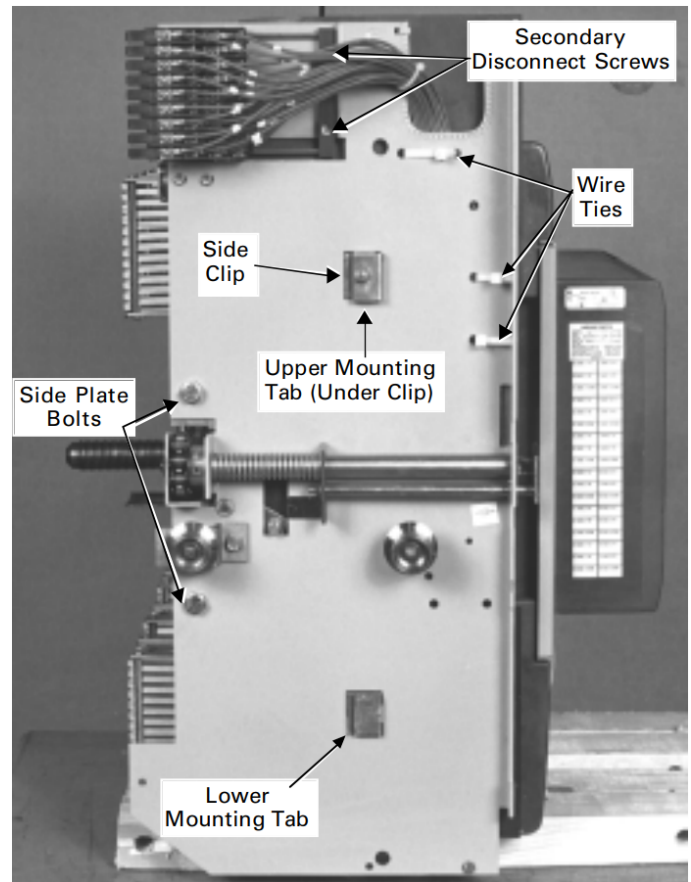

Figure 17. 2500–4000 A draw-out breaker side panel, showing the wire ties, bolts, and clip to be removed.
7. Remove the breaker from the draw-out substructure and place it on a suitable work surface. Place the breaker on supports so that the weight of the breaker is not supported by the side plates, as shown in Figure 17.
12. Remove the wire ties that hold the wire bundle connected from the secondary disconnect to the breaker side plate, shown in Figure 17. Remove the screw and clip, also shown in Figure 17. Remove the two  $\frac{3}{8}$ -16 bolts directly above and below the chain drive sprocket.
13. Remove the two screws in the secondary disconnect mounting bar indicated in Figure 17, then slide the secondary disconnect and the two rods toward the front of the breaker and lift them out and away from the side plate.